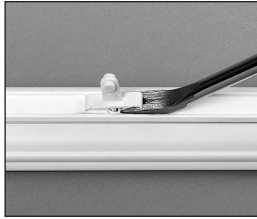

Figure 2
3. To remove broken cufflink, insert beveled end of tool under cufflink (*fig.2*), then press downward on handle of tool to pry cufflink free.